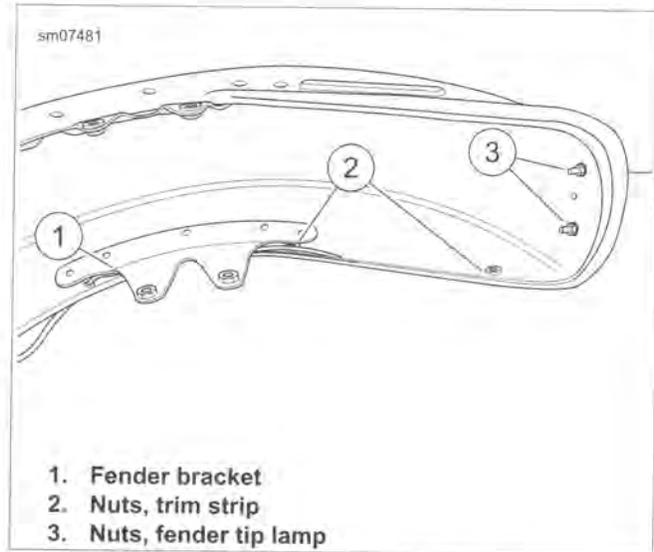

Figure 7-27. Front Fender Underside
2. See Figure 7-27. Remove nuts (2) securing left fender trim strip. Remove trim strip.
3. Remove nuts (3) securing fender tip lamp. Remove lamp and harness assembly.
1. See Figure 7-27. Mount fender tip lamp. Secure with nuts (3). Tighten to 20-25 in-lbs (2.3-2.8 Nm).
4. See Figure 7-27. Route harness between fender and fender mounting bracket (1).